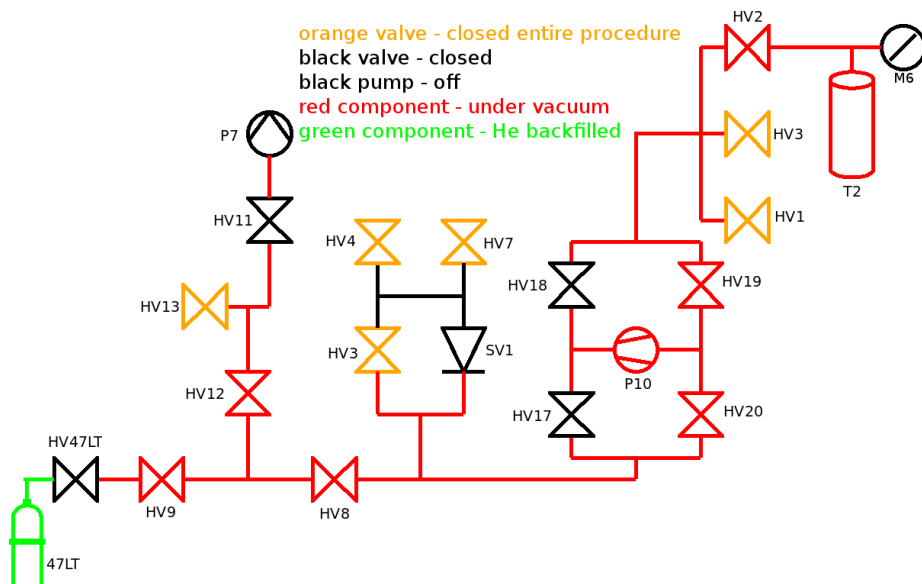

Figure 3: Isolate and turn off P7, then close two recovery manifold valves.
3. Figure 3: close valves HV11, HV17 and HV18. Turn off P7. There should be a path for He gas to flow from the pressurized cylinder to T2 without any exit to atmosphere.